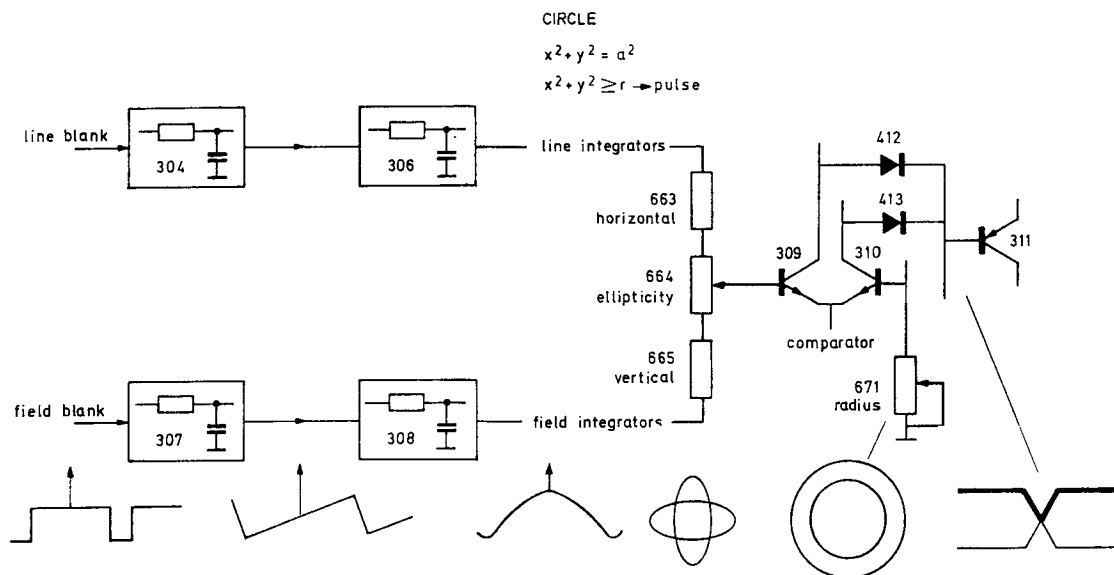
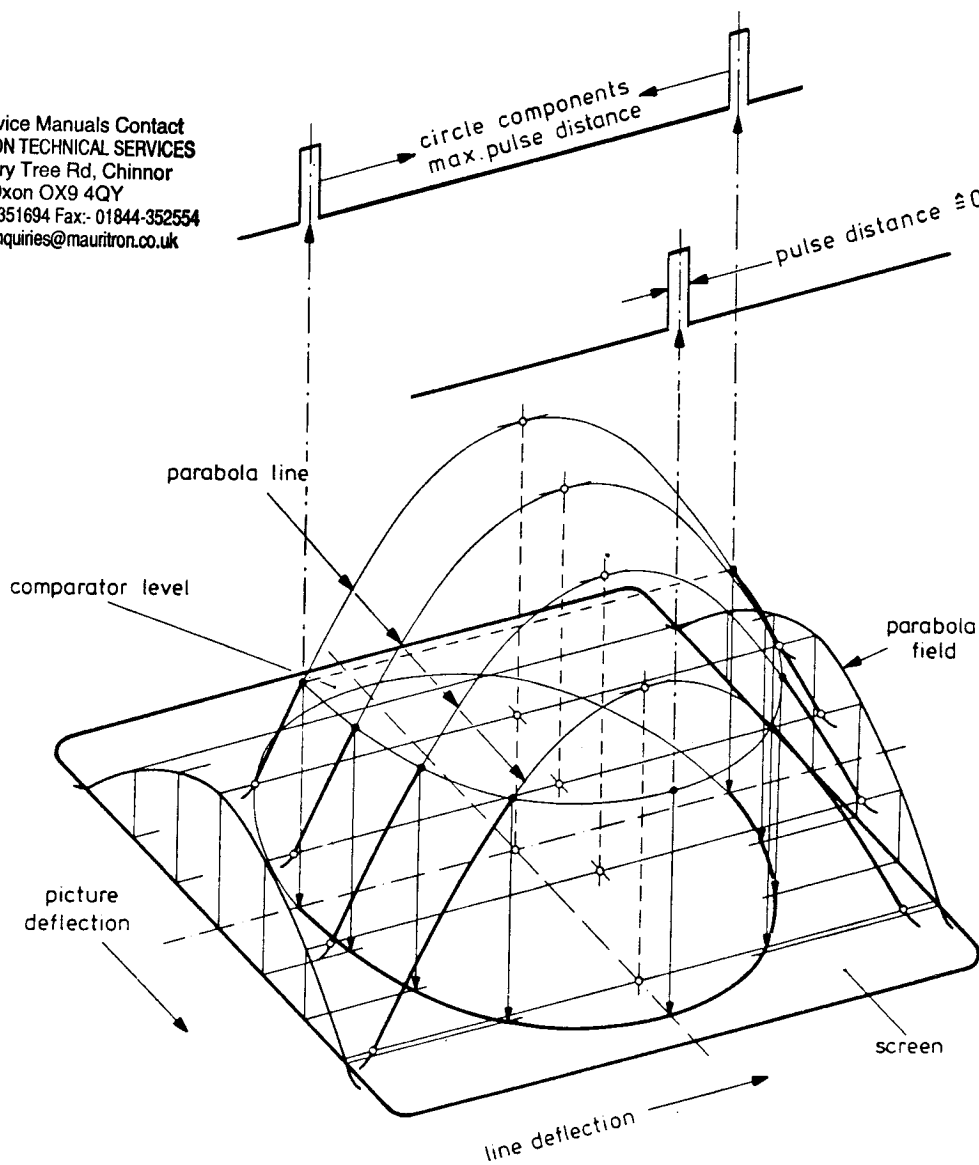

Fig. 10.1 Forming the circle control pulse
Fig. 10.2 Forming the circle
- 2.2.5.1. **Double integration** by the line- and field integrators, fig. 10.1 and 10.2, 304, 306 and 307, 308, causes parabola in line and picture deflection. The control is organized by the enable signals (H-level) 351/1 and 351/7 via the gates 372/6 and 372/3. These gates are disabled, if the CIRCLE pushbutton is not pressed.
The ellipticity is adjusted by potmeter 664, fig. 10.1.
- 2.2.5.2. **Forming the circle**, fig. 10.2. The comparator 309-313 is adjusted by 671 within the voltage divider 672/669 so that transistor 309 is cut off and 310 conducts. When the added parabola voltages are exceeding the comparator level, the current of the difference stage is taken over by transistor 309. Approaching the comparator level from higher voltages the same effect results in reverse direction. So at the common cathode pulses of half the diode forward voltage origine, fig. 10.1. The different thickness of the circle, when selecting white or black circle, is achieved by the differentiations within the decoupling stages 312 and 313.
The NAND-gates 379/6 and 379/12 are enabled. The circle pulses (see chapter 2.2.5 and fig. 10.2) change their distance from line to line according to the function of a circle. The circle pulses cut off the current through resistor 687/U10 (379/6, 381/8 and 378/3), resulting in a white circle on a black field.